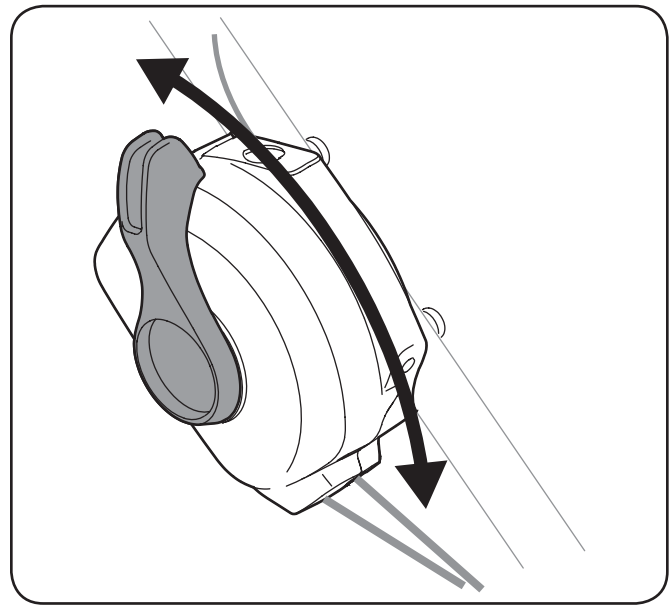

Figure 5-3
2. To change speed, move speed control to the desired speed. See Figure 5-3.